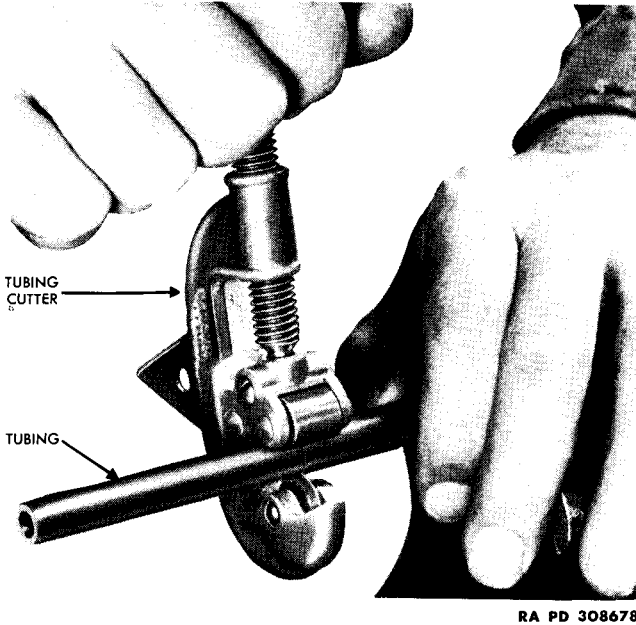

Figure 36—Cutting Tubing to Length With a Tubing Cutter
(3) **REPLACEMENT.** When replacing tubing lines, cut tubing to required length with a hack-saw or tubing cutter (fig. 36). As the cut is made, make sure the end of the tubing is smooth, and that it